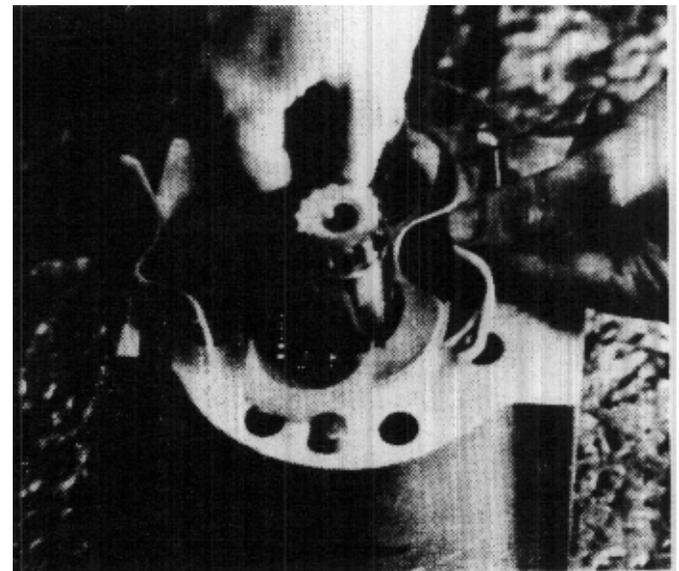

FIGURE 88
20. Remove o-ring (34).
21. To disassemble the rear motor sections, repeat Steps 7 through 12, as applicable. Keep these parts separate from the front motor. Although most of the parts are interchangeable, the body and gears may not be. (Fig. 88)